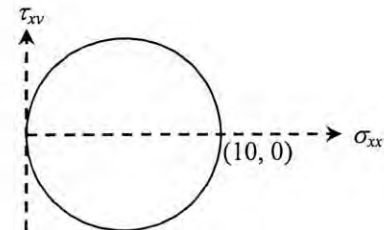

Figure 4
4. **Figure 4** shows a Mohr's circle of stress (ksi). Calculate